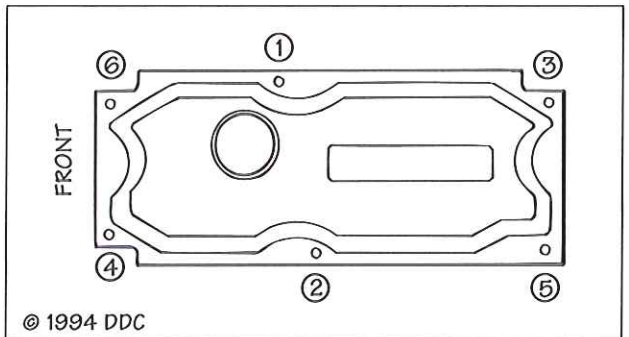

FIG. 35
6. Install the rocker cover cap to the base. Install the 8 screws that attach the cap to the base and tighten to 20 lb.-ft (25 N•m) torque in 2 stages, using half-torque value first. Use the torque sequence shown in Fig. 35.